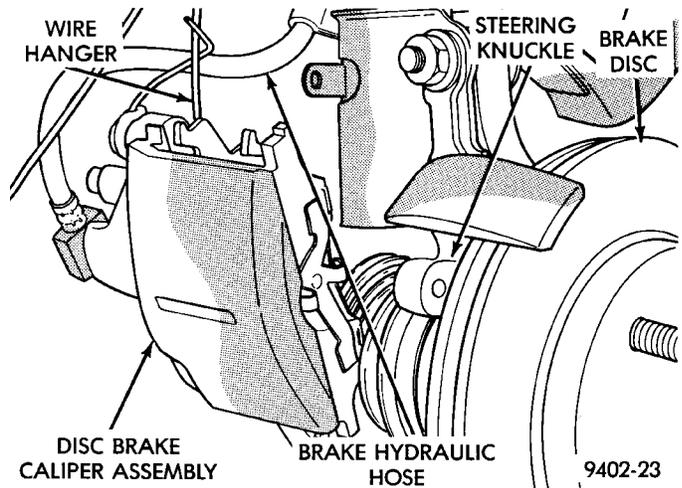

Fig. 54 Correctly Supported Brake Caliper
- (5) Support the disc brake caliper using a wire hook, (Fig. 54) not by the hydraulic flex hose.